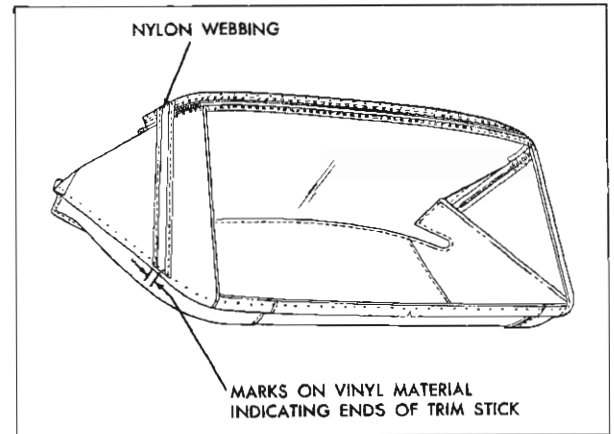

Fig. 21-37 Marking Back Curtain
18. Remove right and left nylon webbing from rear trim stick (Fig. 21-37).